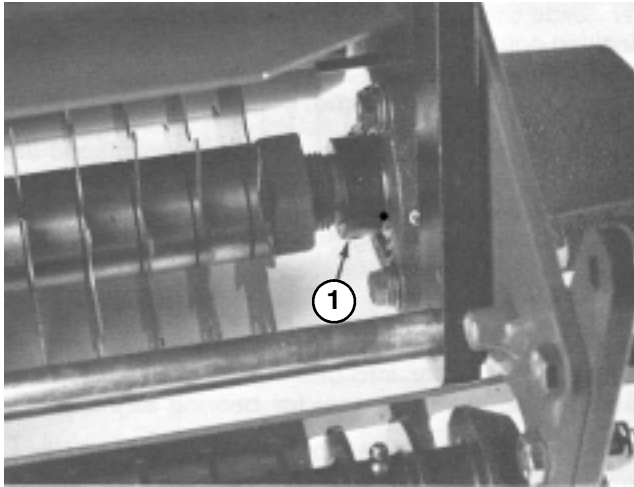

Figure 11
6. With a drive pin and hammer, loosen the locking collars by driving the locking collar in direction opposite to normal rotation (Fig. 11).